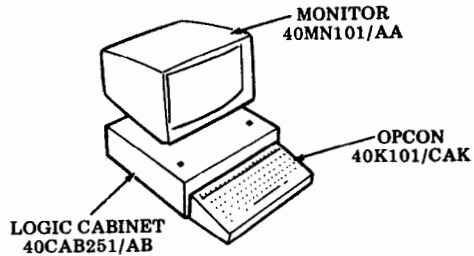

Fig. 2
3.01 Keyboard Display (KD) Set (Fig. 2)